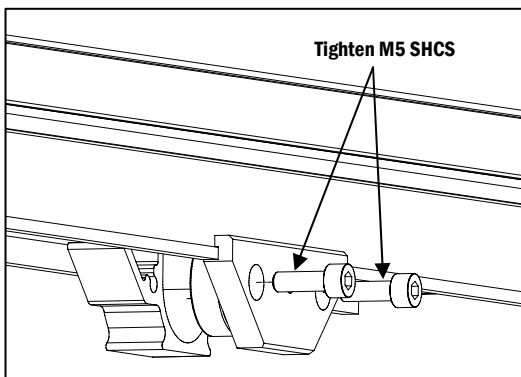
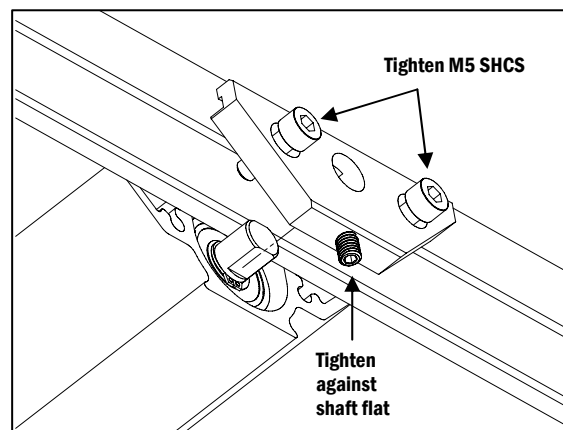

Figure 4
Figure 5
d. Clamp the Underside idler assembly into place by threading the M5 Socket Head Cap Screws through the Clamp Plate and into the extruded guard. The assembly will lock against the bottom corner of the aluminum extruded conveyor frame (**Figure 4**). For Full Width idler assemblies, the M5 Set Screws will also need to be tightened through the Clamp plate against the flat on the idler shaft (**Figure 5**).